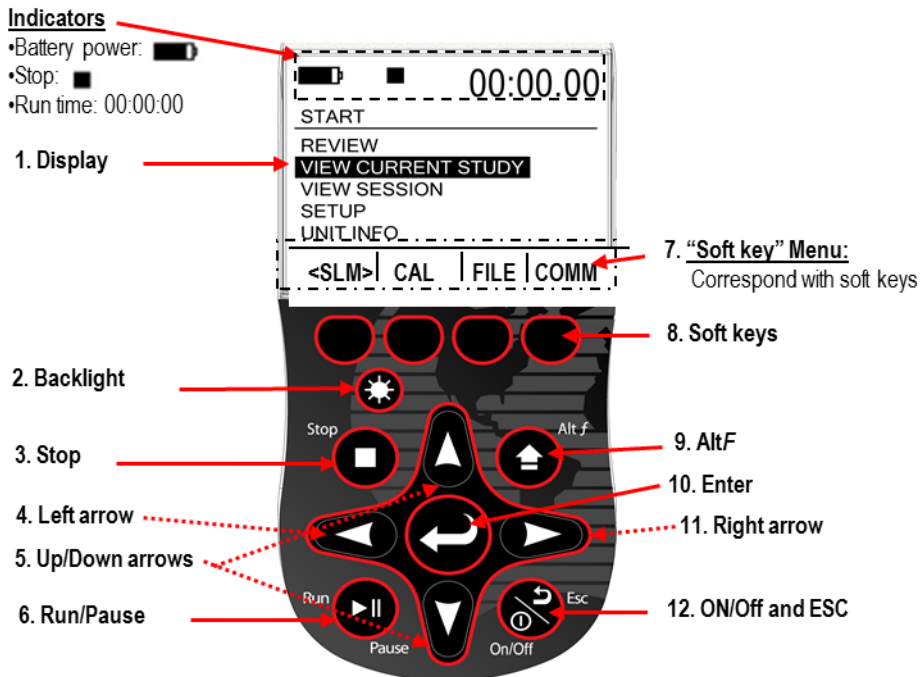

Figure 2-10: SoundPro SE/DL start screen and keypad
8. Soft keys	The soft key buttons correspond with the soft key menu. (Please see Figure 2-10 above).
- If turned on, ensure you are at the start screen by pressing **On/Off/Esc**  repeatedly until you return to start screen (see Figure 2-10).
- If turned on, ensure you are at the start screen by pressing **On/Off/esc**  repeatedly until you return to start screen (see Figure 2-10).